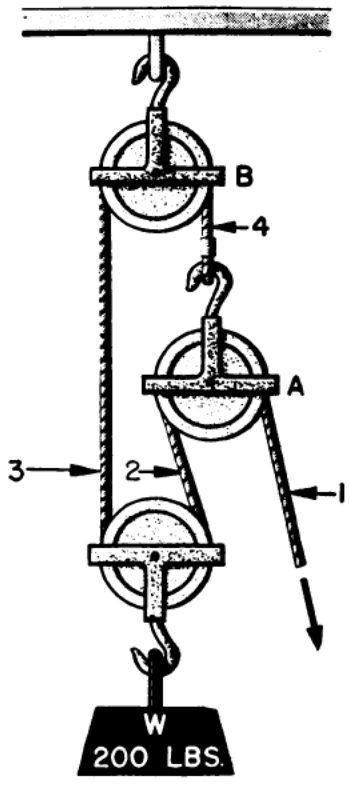

Figure 107.
6. Figure the mechanical advantage of the rig shown in figure 107. (Be careful—this one will fool you!)